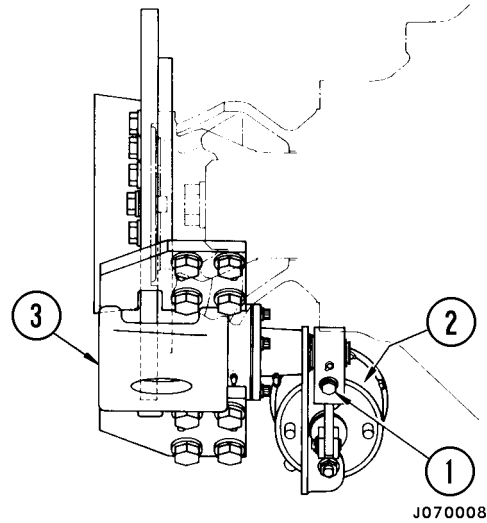
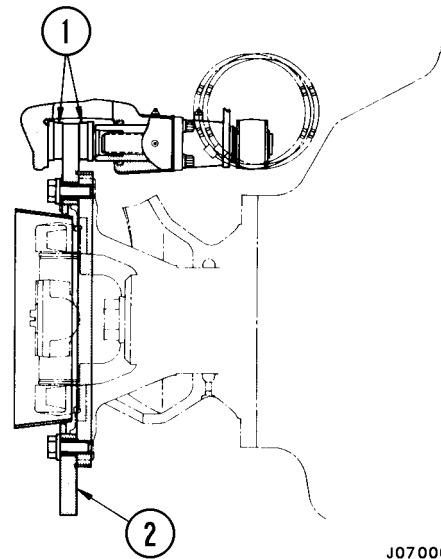
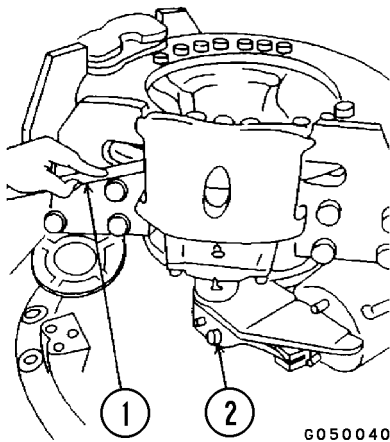

FIGURE 4-16. PARKING BRAKE ADJUSTMENT
FIGURE 4-17. PARKING BRAKE ADJUSTMENT
FIGURE 4-19. ADJUSTMENT CLEARANCE
1. Turn capscrew (1, Figure 4-16) clockwise and bring both pads (1, Figure 4-17) into contact with disc (2).
3. Turn capscrew (1, Figure 4-16) back from this position counterclockwise 360° ± 15° and measure clearance of caliper pad with feeler gauge (1, Figure 4-19).